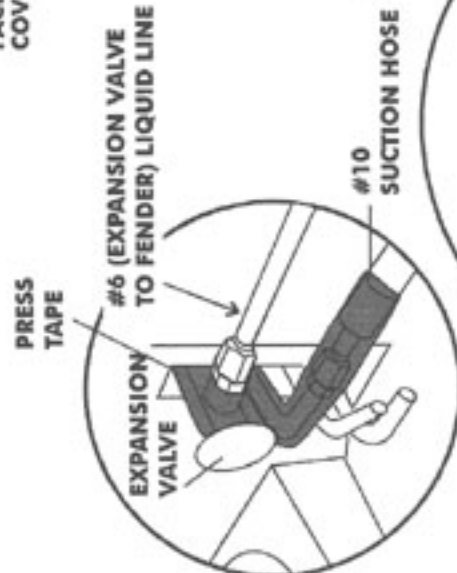

FIGURE 20
- WRAP THE METAL FITTINGS OF THE #10 SUCTION LINE AND #6 LIQUID LINE AT THE EVAPORATOR AND EXPANSION VALVE WITH PRESS TAPE TO PREVENT CONDENSATION LEAKS INSIDE THE VEHICLE (SEE FIGURE 20, PG. 8).